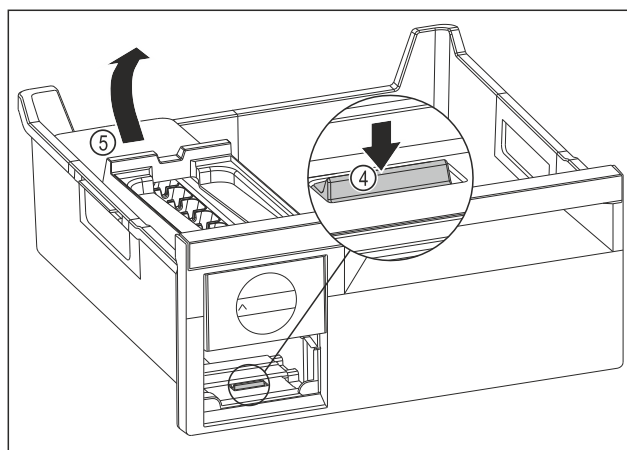

Fig. 143
- Removing the EasyTwist-Ice body: Use your finger to push the tab Fig. 143 (4) down and use your other hand to lift the EasyTwist-Ice body Fig. 143 (5) from behind at the same time.